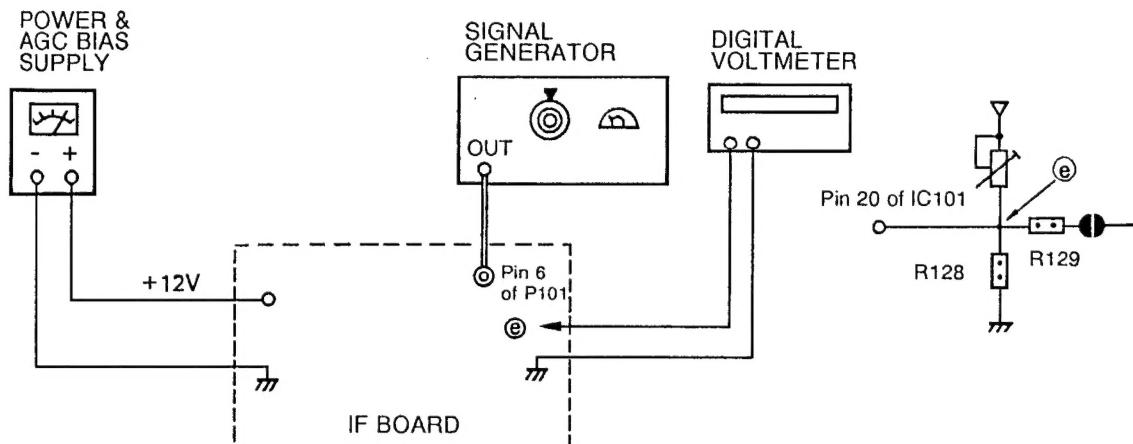

Figure 6. AFC Alignment
GENERAL Refer to figure 6 for test equipment connection.
3. Supply +12 volts to the IF Board. (See figure 6.)
DVM Connect to the resistor R128 (◎ in figure 6) and ground.